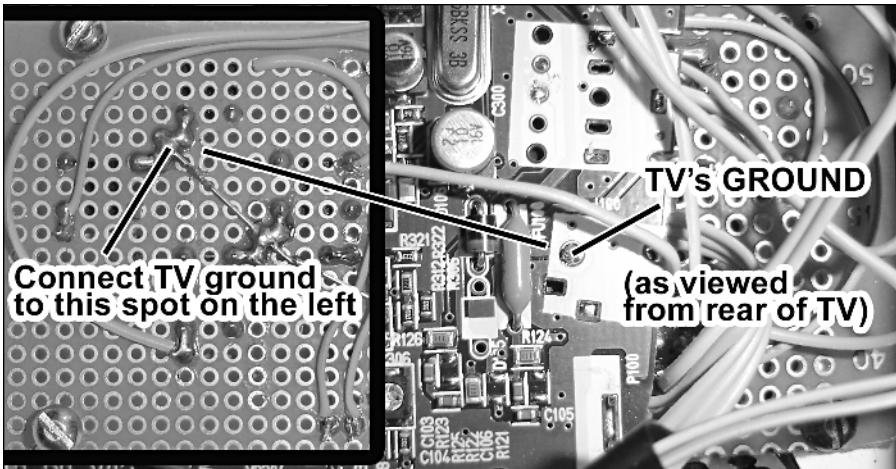

FIGURE 11-28: Connecting the TV's ground to the control board. Also shows the audio/video spots.
The pocket TV still needs to get a ground connection, and since it's right on top of the control board, that's a good place to get one. The ground connection in the center of the X/Y/B/A buttons should still be visible to the left of the TV. Connect the TV's ground to that, as shown in Figure 11-28.
1. In Chapter 4, you attached four wires from the audio/video jack to the TV's circuit board. One of those wires was for power, and the other three were *ground*, *audio*, and *video*. In Figure 11-28, the audio and video spots are indicated on the back of the TV. Follow the wires connected to them up to the audio/video jack so that you'll know which is which. Make the audio/video connections in the section at the jack, since it'll be easier than trying to solder them to the TV.